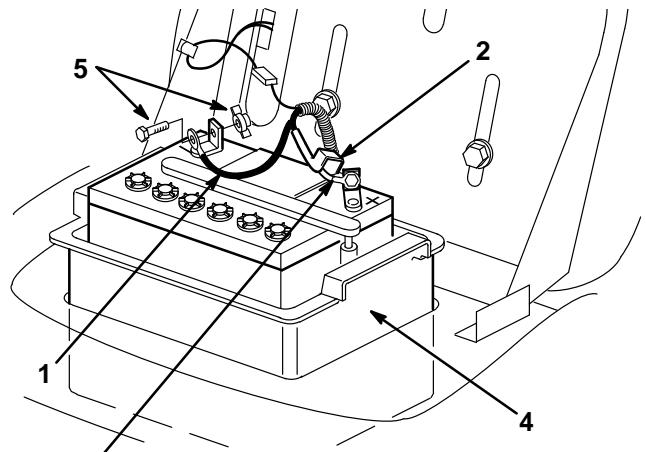

Figure 21
3. Disconnect the negative (black) ground cable from the battery post (Fig. 21).
4. Slide the rubber cover up the positive (red) cable. Disconnect the positive (red) cable from the battery post (Fig. 21).
3. Using the bolt and wing nut, connect the positive (red) cable to the positive (+) battery post (Fig. 21). Slide the rubber cover over the battery post.
4. Using the bolt and wing nut, connect the negative (black) cable to the negative (−) battery post (Fig. 21).